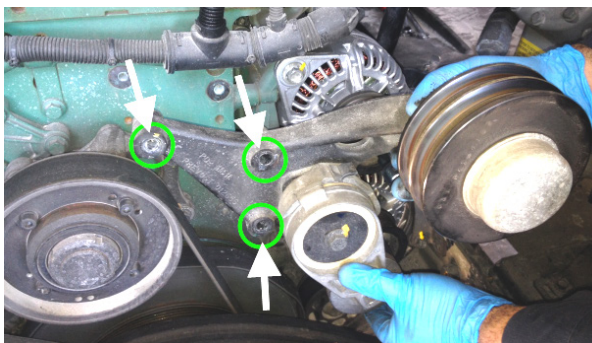

FIGURE 3
1. Remove the A/C compressor belts and then remove A/C compressor idler pulley bracket assembly (3 bolts to be removed, FIGURE 3).